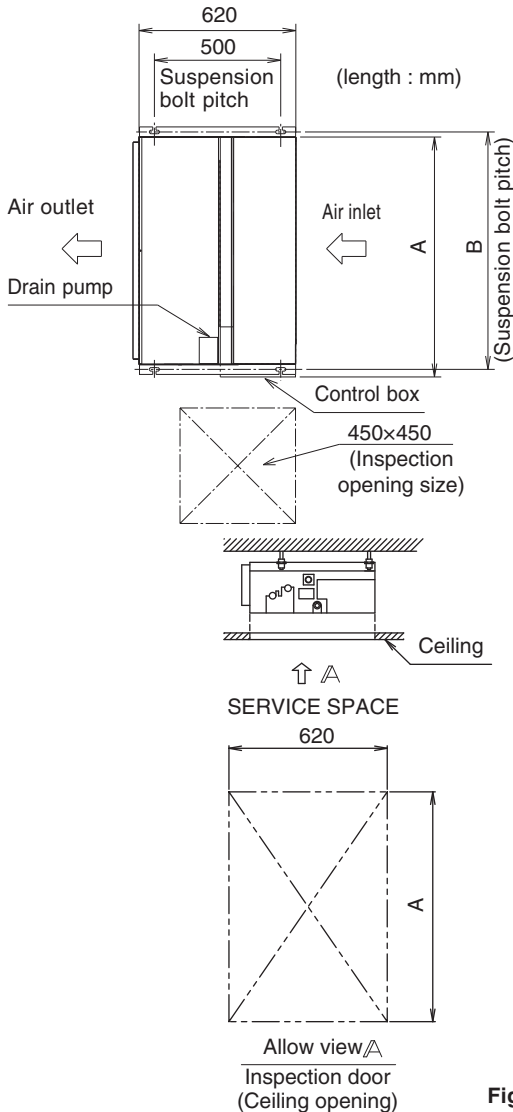

Fig. 2
### (1) Confirm the positional relationship between the unit and suspension bolts. (Refer to Fig. 2)